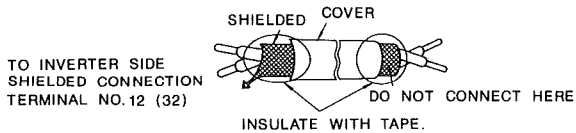

Fig. 3 Preparation of Shielded Cable Ends
- (1) Separate control signal wiring (terminal TC1 to TC3) of PAI14U from main circuit wiring or other power lines.
- (2) Use shielded cable for control signal wiring and prepare its terminal ends as shown in Fig. 3 in order to prevent malfunction caused by noise. Wiring length must not exceed 10m.
- (3) Connect terminals, which are not used for control signal input terminal TC1 or TC2, to 0V (terminal TC3).